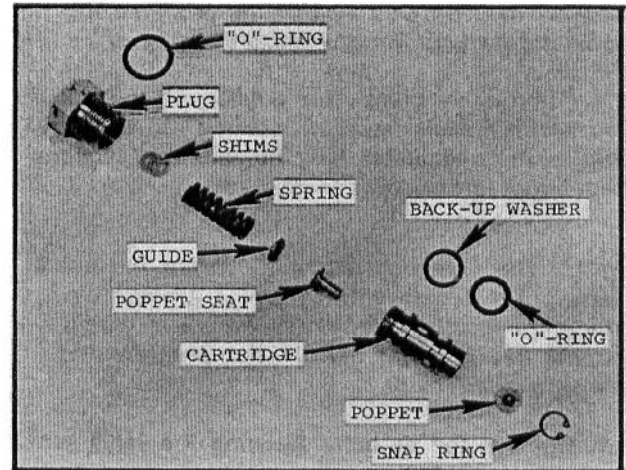

Fig. 19 — Disassembled "32042" Circuit Relief Valve
5. Service the circuit relief valves (within "working sections") as follows ... see Fig. 19:
valve and separate components as shown in Fig. 19.